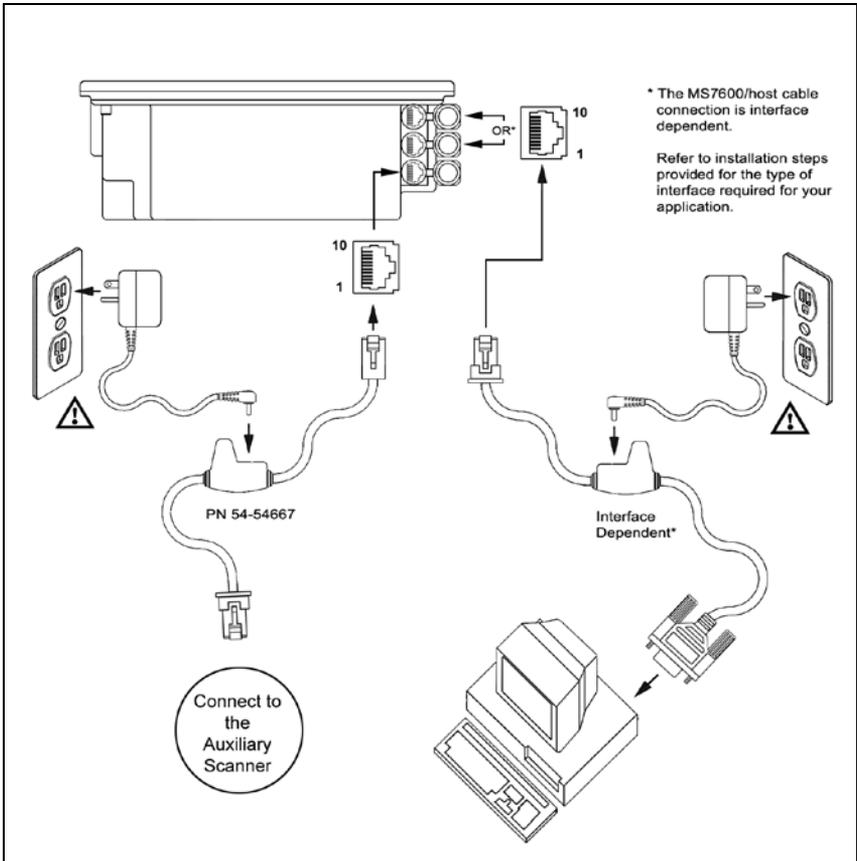

Figure 23: Secondary Scanner Setup
2. Connect the **round** end of the PowerLink RS232 AUX cable [PN 54-54667A] to the RS232 jack of the **secondary** scanner (see *Figure 23*).